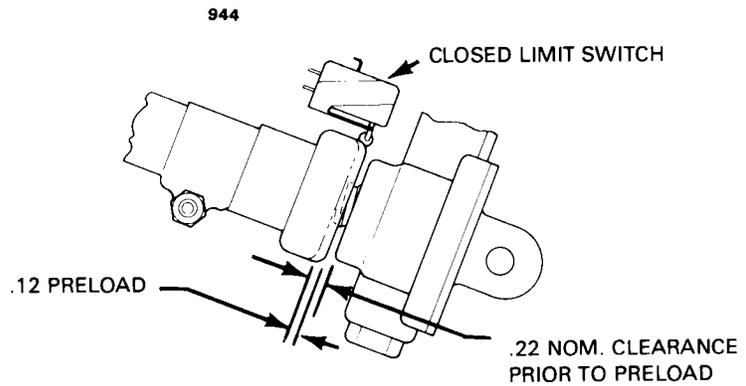

Figure 21-17. Condenser Air Scoop Installation
6. Seal all around forward cover panel (and aft cover panel if removed) with Permagum Bead No. 576 purchased from Prestolite Engineering Company. (See Figure 21-17.)
The actuator is on a bracket mounted between two bulkheads in the tail cone. It is coupled to the condenser assembly through a bellcrank mounted to a bracket on the bulkhead aft of the condenser. The actuator travel is controlled by two limit switches. Both the up and down switches are located on the actuator. (Refer to Figure 21-17 for the switch locations.)
**CONDENSER ASSEMBLY RIGGING INSTRUCTIONS.** (Refer to Figure 21-17.)
It is necessary for the condenser door to fit flush with the fuselage skin, and with increased force along the forward edge. The following steps will help accomplish this requirement. (Refer to Figure 21-17.)
3. With the door fully closed adjust the "CLOSED" limit switch so that the actuator travels an additional .12 of an inch after the door is fully closed, this is necessary to preload the mechanism. (Refer to Figure 21-17.)